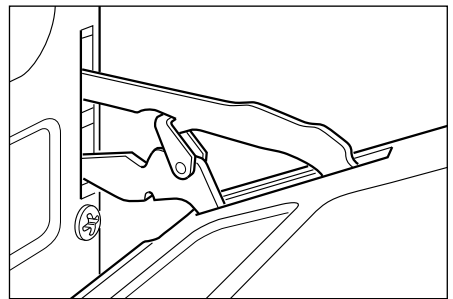

Fig.40c
- Lift the oven door slightly. The notch on the bottom of the hinge will disengage (Fig. 40c).